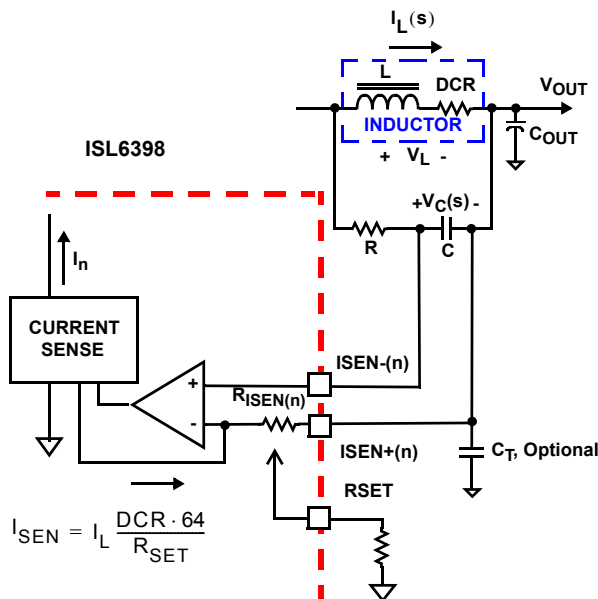

FIGURE 4. DCR SENSING CONFIGURATION
The internal circuitry, shown in Figures 4 and 5, represents one channel of the VR output, respectively. The ISEN± circuitry is repeated for each channel, but may not be active depending on the status of the PWM[6:2] pins, as described in "PWM Operation" on page 17. The input bias current of the current sensing amplifier is typically 25nA; less than 8kΩ input impedance is preferred to minimize the offset error, i.e., a larger C value as needed.
An inductor's winding is characteristic of a distributed resistance, as measured by the Direct Current Resistance (DCR) parameter. Consider the inductor DCR as a separate lumped quantity, as shown in Figure 4. The channel current I_L , flowing through the inductor, will also pass through the DCR. Equation 4 shows the S-domain equivalent voltage across the inductor V_L .
A simple R-C network across the inductor extracts the DCR voltage, as shown in Figure 4.
The current sense circuitry operates in a very similar manner for negative current feedback, where inductor current is flowing from the output of the regulator to the PHASE node, opposite of flow pictured in Figures 4 and 5. However, the range of proper operation with negative current sensing has a limitation. The worst-case peak-to-peak inductor ripple current should be kept less than 80% of the OCP trip point ($\sim 80\mu A$). Care should be taken to avoid operation with negative current feedback exceeding this threshold, as this may lead to momentary loss of current balance between phases and disruption of normal circuit operation. Note that the negative current can especially affect coupled inductor designs, where the effective inductance is the leakage between the two channels, much lower than the specified mutual inductance (LM) and self inductance (L). To limit the impact, a higher R_{SET} value ($1.5\times$ to $2\times$) is often used to reduce the effective negative current seen by the controller in coupled inductor designs.